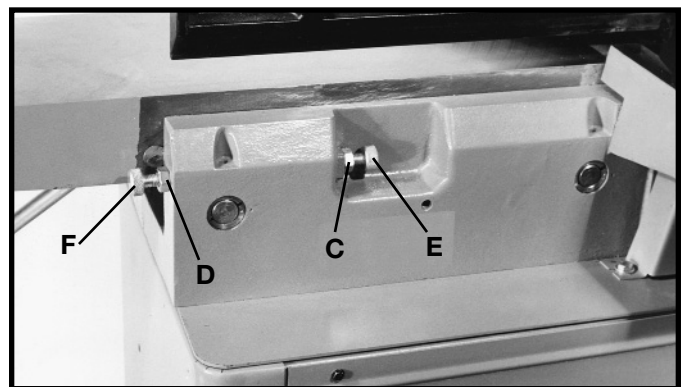

Fig. 20
Positive stops are provided to limit the height of the infeed table. The positive stops can be set by loosening lock nuts (C) and (D) Fig. 20, and turning the two adjusting screws (E) and (F). We recommend that the height of the infeed table be adjusted so that the table, at its highest point, will be 1/2mm (.020") below the highest point of the knives. This is an important feature of your jointer which enables you to rapidly position the infeed table for a finish or final cut.